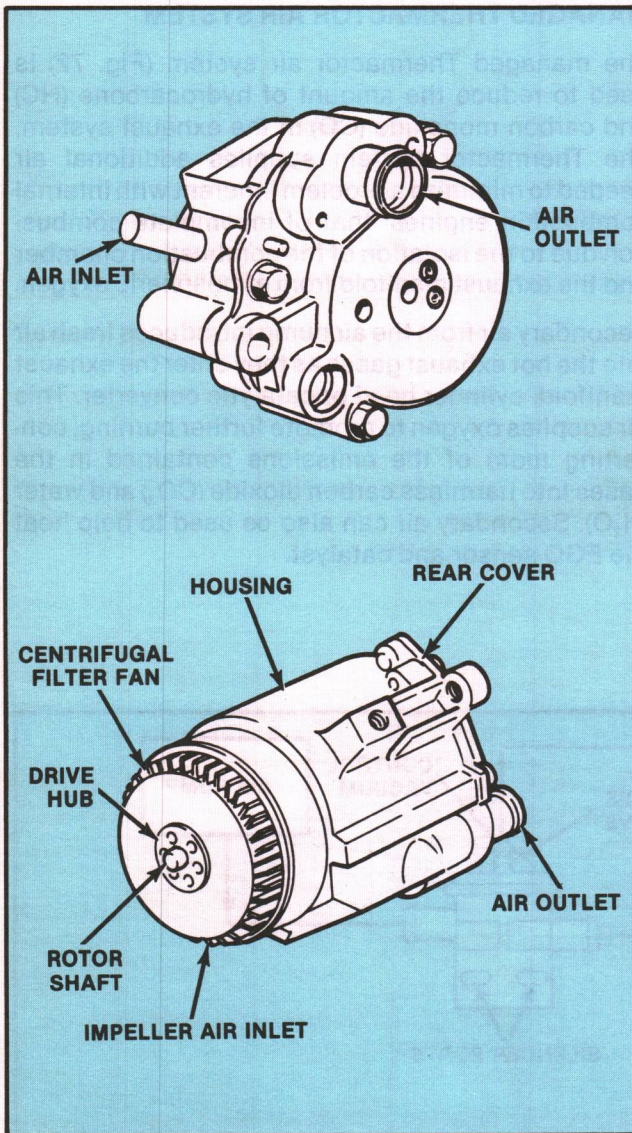

Figure 73. Typical Thermactor Air Pump
- **Air Pump (Fig. 73)**—Draws in fresh air and sends it to the air distribution manifold where it is directed to either the exhaust manifold, cylinder heads or catalytic converter.